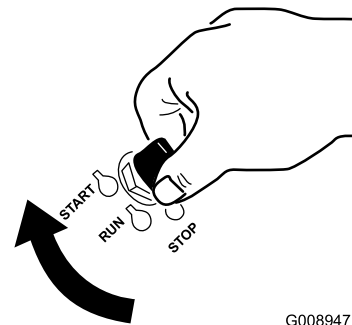

Figure 12
1. Turn the ignition key to the START position (Figure 12). When the engine starts, release the key.
6. Turn the ignition key to the START position (Figure 12). When the engine starts, release the key.